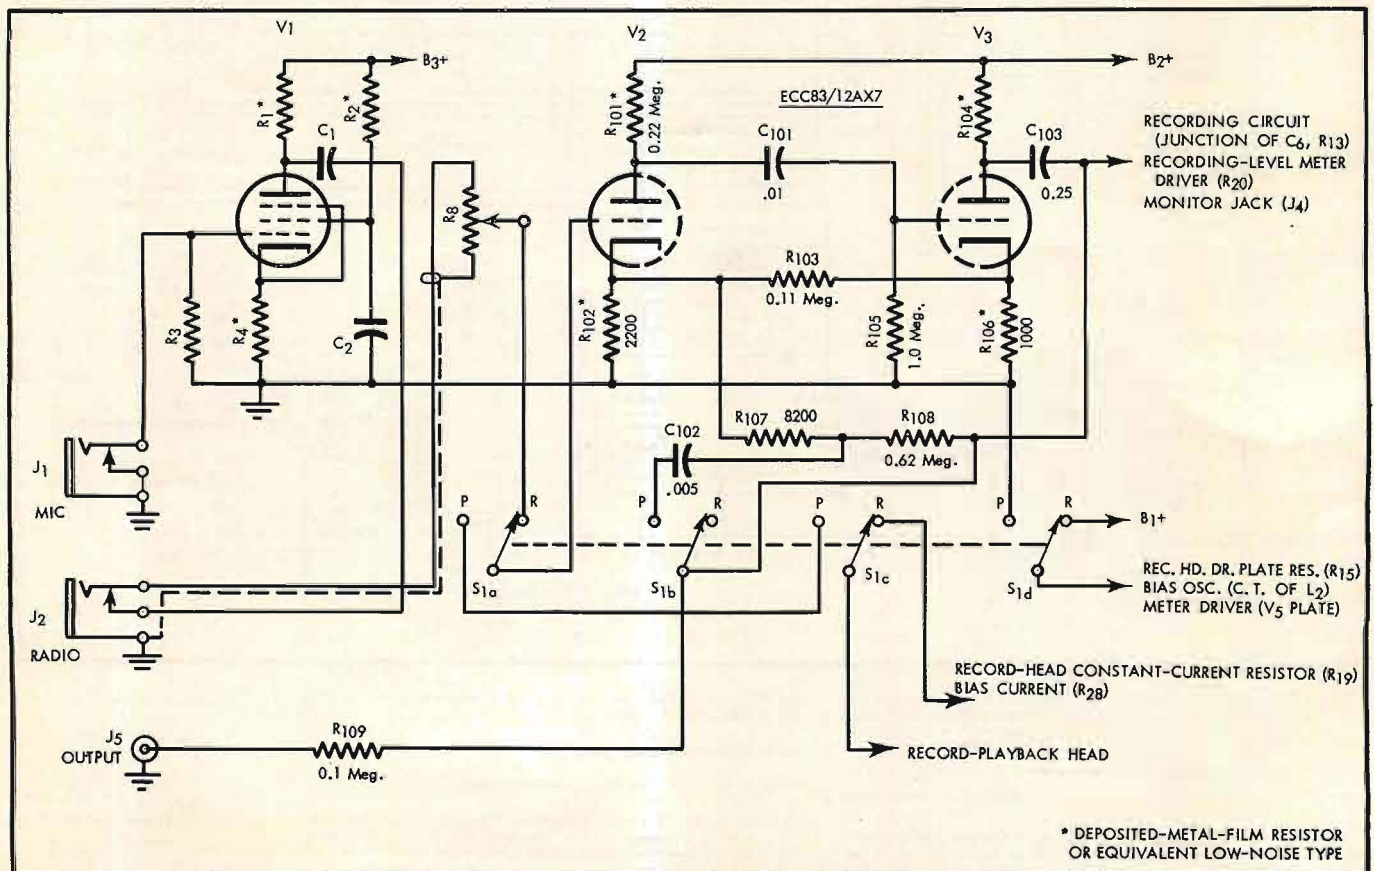

Fig. 2. When the amplifier is converted as described, it results in this arrangement.
The Brush BK-1090 record-playback half-track head was used. It is of laminated-core construction, which minimizes eddy current losses; has a nominal .00025 in. gap, permitting good response to 15,000 cps at 7.5 ips; and has two coil windings, which are hum cancelling when properly connected in series or parallel for the audio signal. It was found that the Brush BK-1090, with its windings in series for maximum playback signal, had greater drive requirements than the Dynamu head, so that more voltage gain was required in recording. Therefore V_3 was converted from a cathode follower into a voltage amplifier stage, as shown in Fig. 2; at the same time, equalization was changed from lossy to feedback type, as will be discussed later in more detail.
Originally the plate of V_5 was permanently connected to B_1+ so that the meter would operate in record as well as playback. This permitted comparison of playback levels among various tapes and enabled one to correlate audible distortion with recorded signal level. Unfortunately, if a signal were fed into the amplifier for recording purposes but switch S_1 was left in the playback mode, the meter gave an indication as though everything were set for recording. For this reason the writer accidentally failed on a number of occasions to obtain a desired off-the-air recording. Therefore it was decided to obtain $B+$ for V_5 from the same point as the $B+$ supply for the record-head driver V_4 and the oscillator V_6 , which are connected to $B+$ only in the record mode. This point is the arm of S_{1d} , as shown in Fig. 2.
The circuit revisions in Fig. 2 meet the following objectives: (1) V_3 is converted from a cathode follower to a voltage amplifier to provide the greater gain needed in recording. (2) Output impedance is kept low through negative feedback, thus maintaining high-frequency response and permitting a reasonably long run of cable between the tape recorder and the next component in the audio chain for playback (usually a control amplifier). (3) The volume-control setting does not affect playback equalization; in the original circuit, which employed a lesser type of bass-
One of the problems in using feedback to obtain an equalization curve with a large amount of bass boost, such as the NARTB curve requires, is that at low frequencies the curve tends to lose its accuracy. That is, gain at the low end no longer varies exactly in inverse proportion to the amount of feedback. The feedback factor (ratio between gain without feedback and gain with feedback) is $1 + AB$, where A is gain before feedback and B is percentage of output voltage fed back. At high frequencies, the quantity AB is much greater than 1, so that the feedback factor consists largely of AB ; since A is a constant, it can be said that the gain ratio varies essentially with changes in B . At low frequencies, however, B is very small, and the quantity AB begins to approach 1. Therefore the value 1 can no longer be ignored in the expression $1 + AB$. And the response curve no longer varies exactly with changes in B . In order to keep the quantity AB significantly higher than 1 (at least four times as great) and thus produce accurate equalization, it would be necessary to increase A , that is, gain before feedback. This can be done by positive feedback. The 0.11-meg resistor R_{103} in Fig. 2 produces several db of positive feedback for this purpose.
Having to insert and remove the phone plug continually proved to be a nuisance. Therefore the revised switching arrangement of Fig. 2 was used, which enabled the phone plug to be left in J_2 during playback. V_1 is now permanently connected to the microphone input jack J_1 . Only V_2 and V_3 are used for playback; more will be said about this shortly. In playback, the volume control R_8 and the input jack J_2 are disconnected from the circuit by S_{1a} . Prior to this change, the gain control had always been left in maximum position during playback. Since the change, the lack of command over playback gain at the recorder (gain is governed by the control amplifier) has caused no inconvenience.
circuit. In the circuit of Fig. 2, however, deposited-metal-film resistors are used for noise reduction. These can be virtually as noise-free as wirewound resistors and about one-third as expensive, costing about one dollar each. Moreover, wirewound resistors have some residual inductance, although wound in a manner designed to cancel inductance. This may lead to pickup of hum or possibly to pickup of the audio signal and consequent positive feedback and oscillation in a high-gain circuit.
In Fig. 2, deposited-metal-film resistors are used as the plate and cathode resistances for V_1 , V_2 , and V_3 . Prior to use of metal-film types, deposited-carbons had been tried for V_2 and V_3 as well as V_1 . But each time a metal-film resistor was substituted for a deposited-carbon one, there was a striking improvement, even in late stages. This is not to say that all deposited-carbon resistors are inferior to metal-film ones. In fact, the writer has been given to understand that there are some deposited-carbon resistors of foreign make which have excellent noise characteristics, closely approaching those of wirewounds. However, his personal experience with American-made resistors has been that deposited-metal-film ones have given far